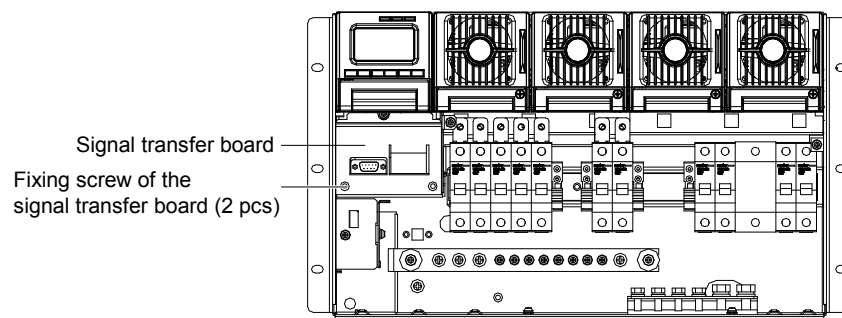

Figure 5-16 Fixing screws positions of the signal transfer board
Step 1: Loosen the two fixing screws of the signal transfer board, as shown in Figure 5-16.